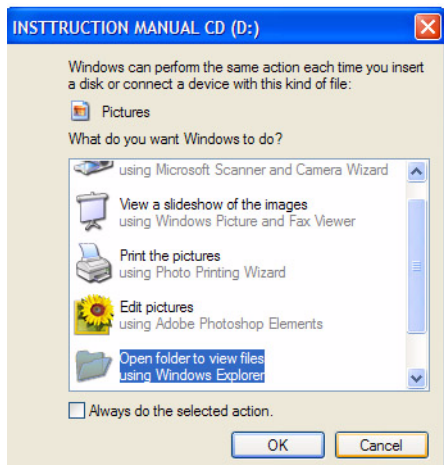

Figure 77
- 4 If the window shown in figure 77 opens, click **Cancel** to close it.